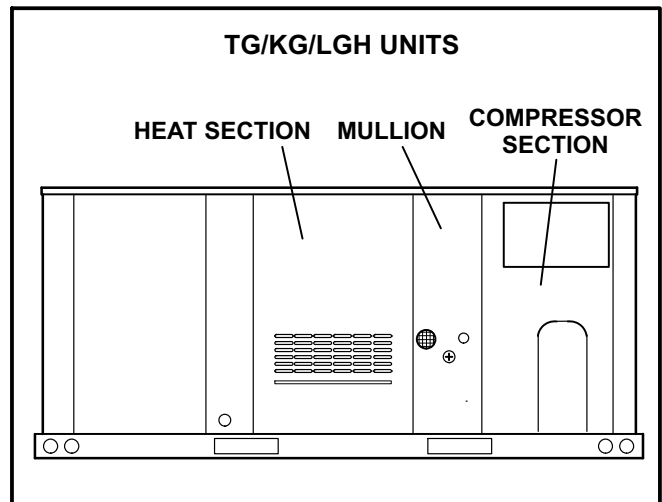

FIGURE 1
- 2- Open the heat section access panel. See figure 1, 2, or 3.